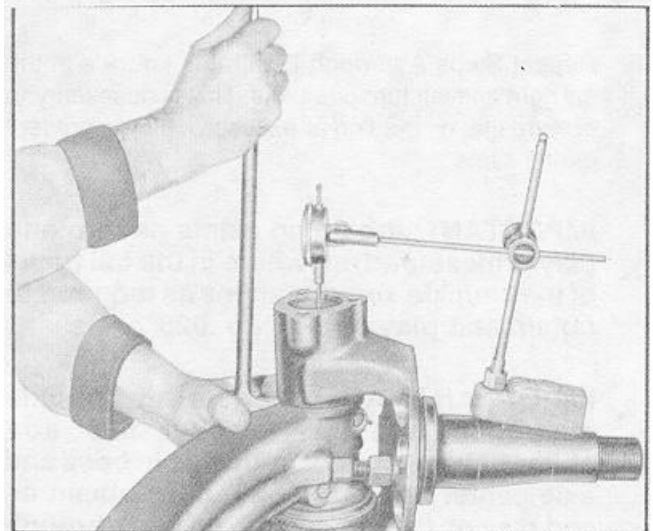

Figure 34
- E. Measure the knuckle clearance (end play) by using a suitable lever to lift the knuckle while observing the dial indicator. Make a note of the measurement (Figure 34).